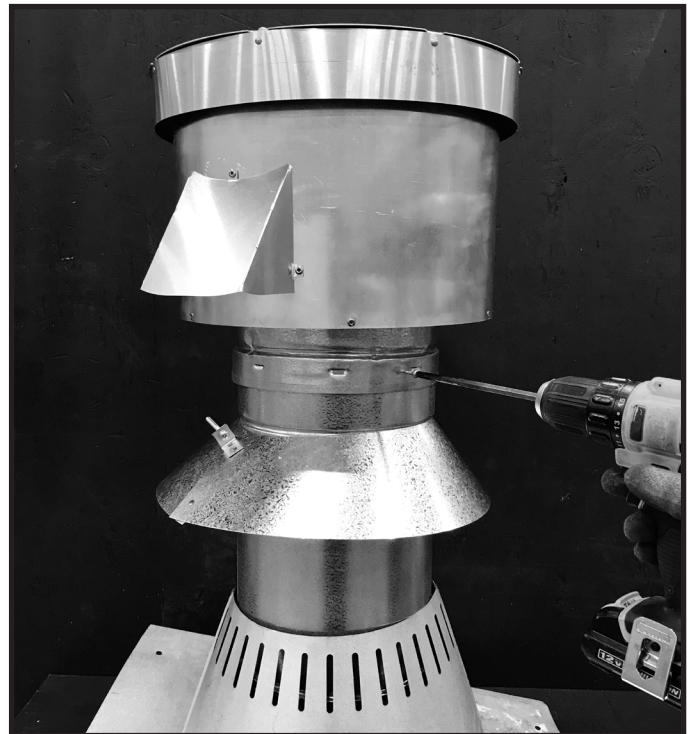

Figure 3.22 Attach PVV-SLEEVE to PVV-SLP Collar
4. Lift the PVV-SLEEVE up to the PVV-SLP and attach to the collar on the PVV-SLP using 3 self tapping screws. Figure 3.22.